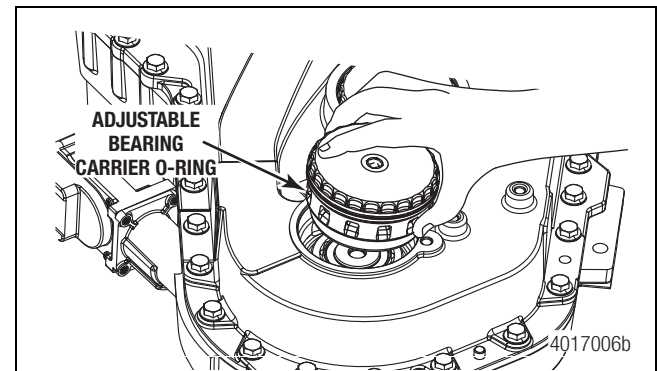

Figure 9
- Remove and discard the original o-ring from the adjustable bearing carrier. Figure 9.